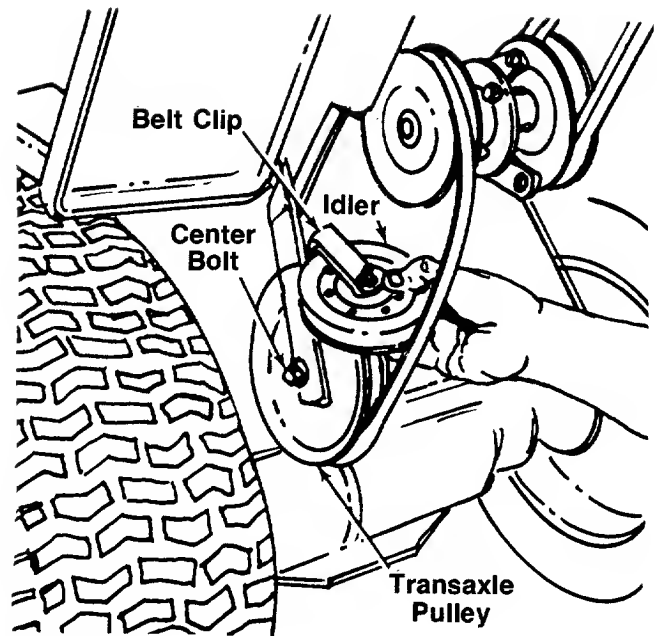

FIGURE 20.
Be sure the belt clip is reassembled the same way. See figure 20.
6. Remove the center bolt and slide the transaxle pulley off. See figure 20.